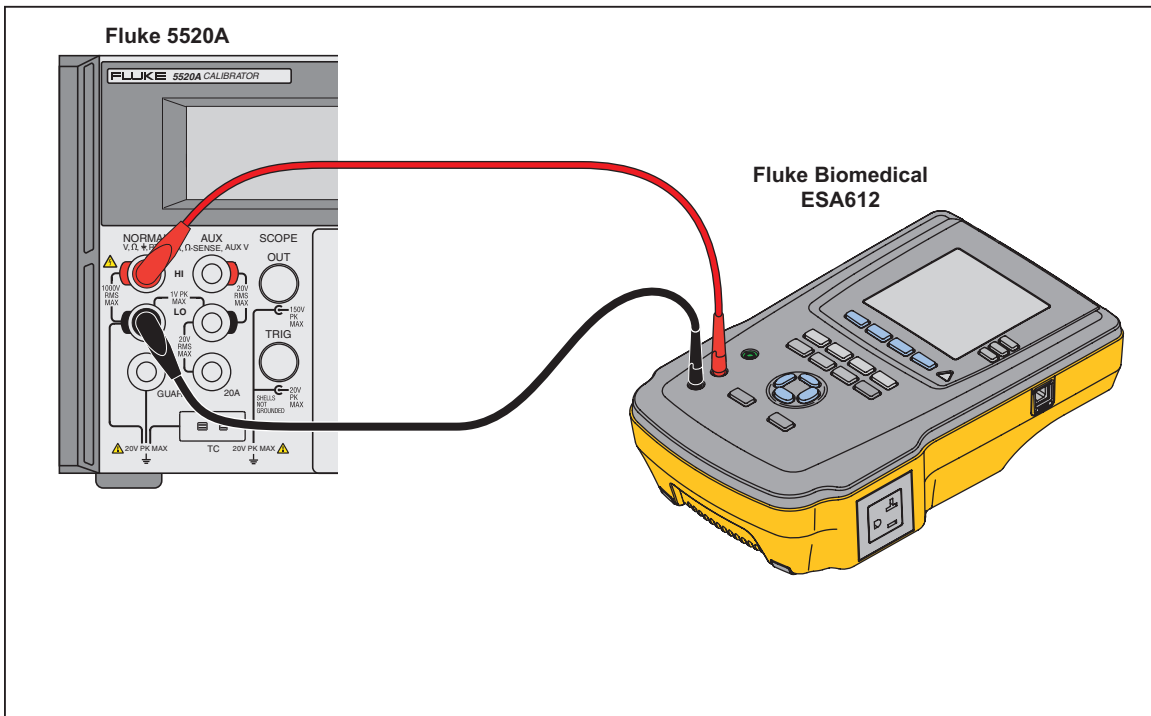

Figure 3-31. Point to Point Calibration Connections
1. Connect the calibrator to the red jack and black jacks as shown in Figure 3-31. Set the calibrator to 300.0 V, 120 Hz.